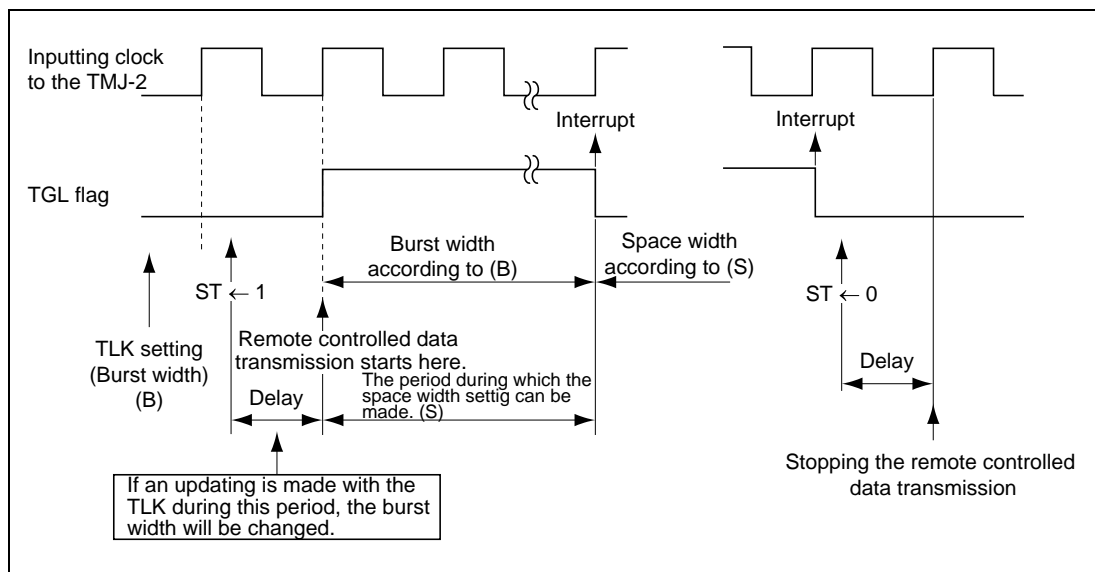

Figure 14.4 Controls of the Remote Controlled Data Transmission
When the Timer J is set to the remote controlled operation mode, since the start bit (ST) is being set or cleared in synchronization with the inputting clock to the TMJ-2, a delay upto a cycle of the inputting clock at the maximum occurs, namely, after the ST bit has been set to 1 until the remote controlled data transmission starts. Consequently, when the TLK is updated during the period after setting the ST bit to 1 until the next cycle of the inputting clock comes, the initial burst width will be changed like shown in figure 14.4.